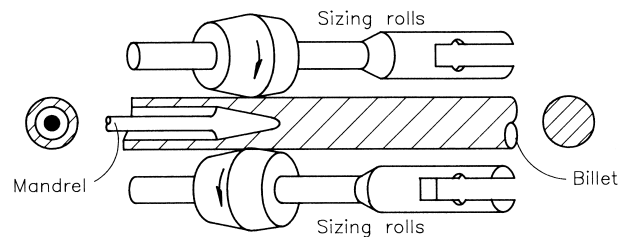

Figure 2-1. Seamless pipe.
**Seamless pipe** is formed by piercing a solid, near-molten, steel rod, called a *billet*, with a *mandrel* to produce a pipe that has no seams or joints. Figure 2-1 depicts the manufacturing process of seamless pipe.